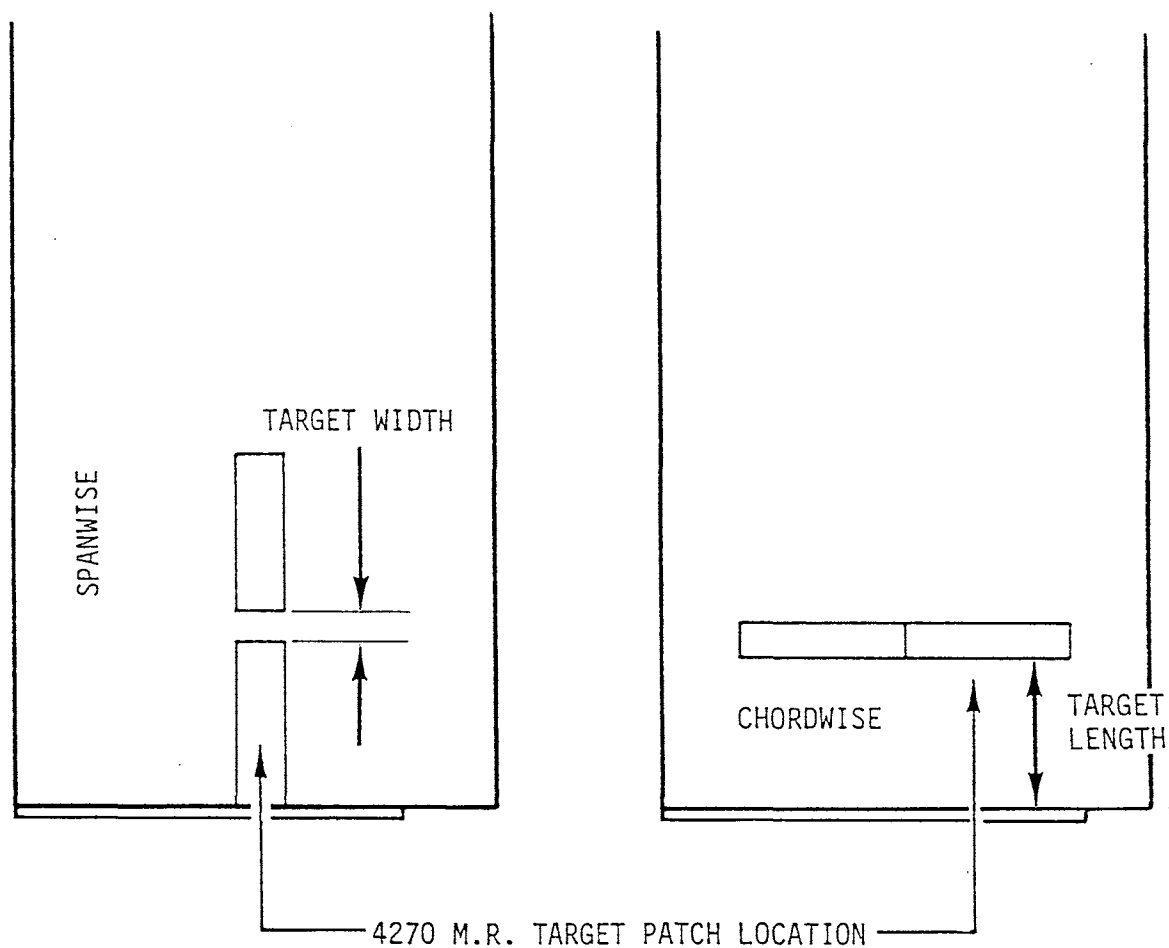

FIGURE 10-9 MAIN ROTOR TARGET PATCH LOCATION
- g) Apply the 4270 target tapes to the main rotor blades per Figure 10-9.